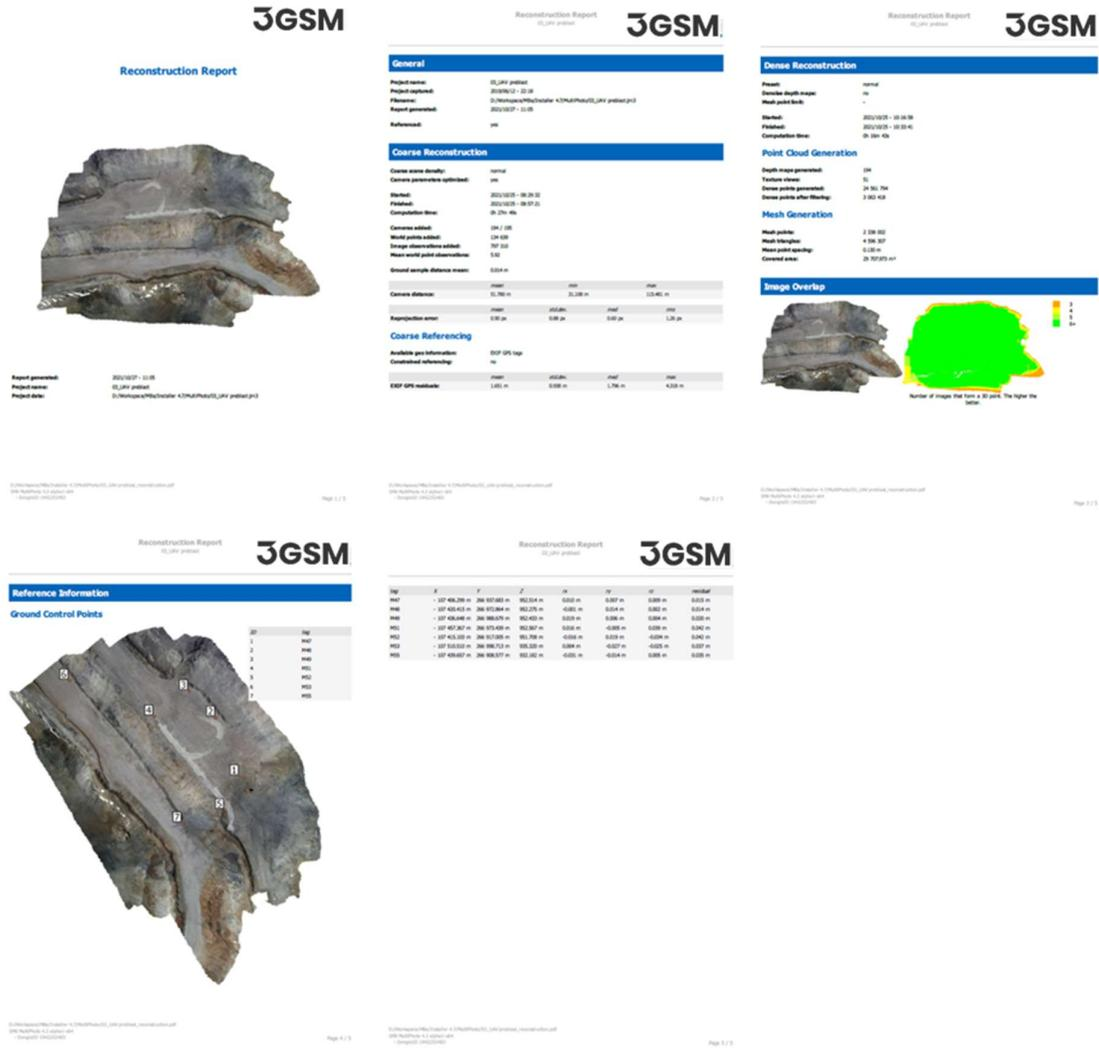

Figure 45: Reconstruction report of the MultiPhoto
- Reconstruction report (“.pdf”): includes a comprehensive summary of the reconstruction (coarse and dense reconstruction) and referencing of the 3D model including statistics (Figure 45).